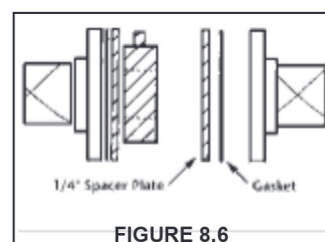

FIGURE 8.6
- 2) For lug and wafer valves that are lined or have integral seals, use a 1/4" steel spacer plate with an I.D. equal to Schedule 40 steel or as required by the valve manufacturer. (See Fig. 8.6)